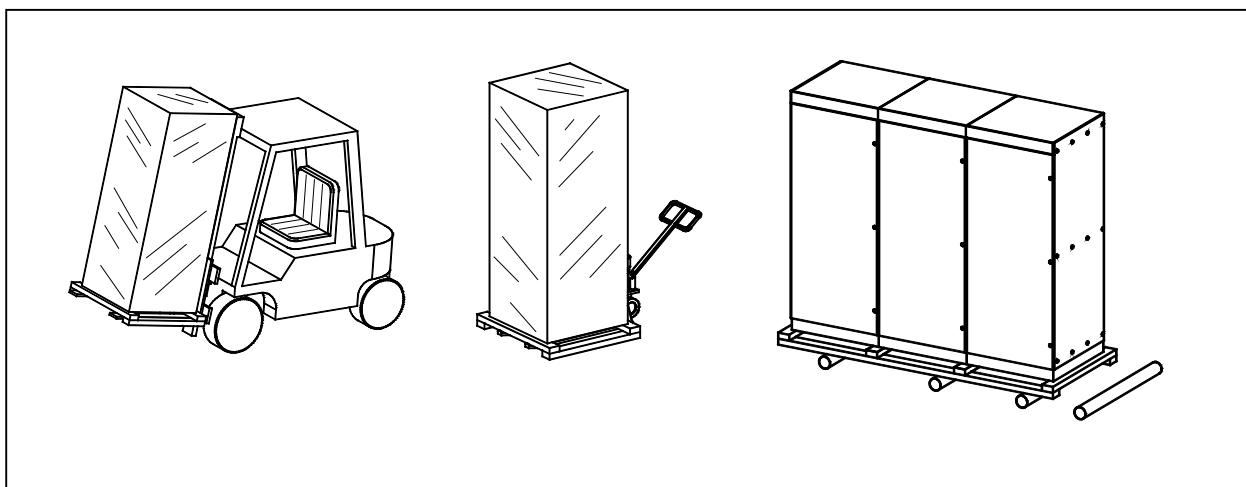

Figure 3
**Transport on site** can be carried out as follows by a forklift truck, a hoist or on rollers, see Figures 3, 4 and 5:
- Move packages in the upright position only, see Figure 3.